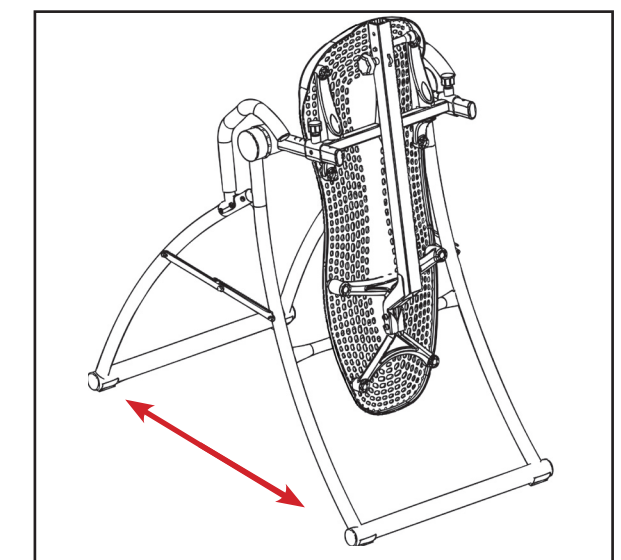

Figure 11
- Use the handles to open the A-frame wide enough so that it is stable and can stand upright on its own (Figure 11).